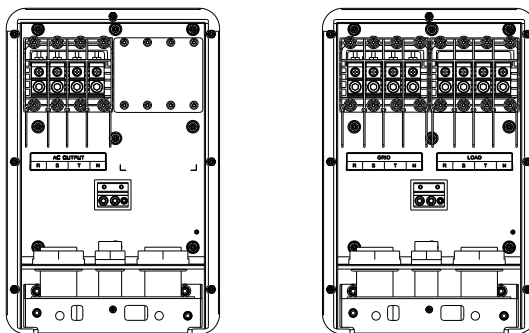

Fig 6.4 AC junction box
1. Determine the stripped length according to the wiring position (recommendation: 0.87-1.03 inches for power cables and 0.87-1.03 inches for ground cables). Remove the protective plugs and install the cable conduits correctly. Then route the cables through the holes at the bottom of the AC junction box, referring to Fig 6.4. After that, connect the cables to the corresponding terminals and secure them with American standard threads.